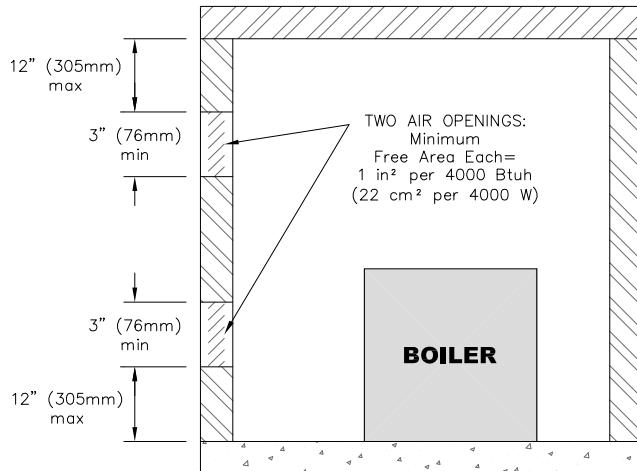
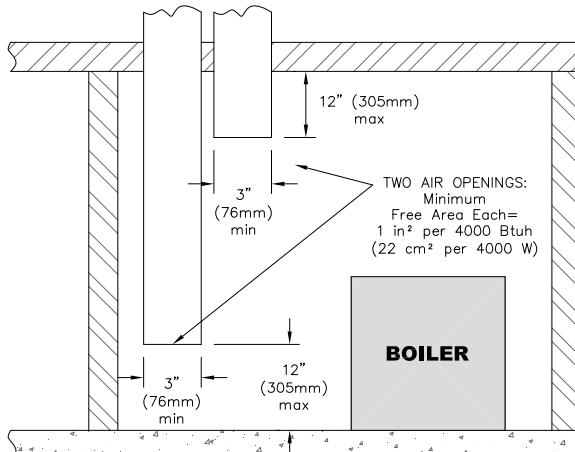

Figure 1.5: Air Openings – All Air Directly from Outdoors
Figure 1.6: Air Openings – All Air from Outdoors through Vertical Ducts
- Where communicating directly or through vertical ducts with the outdoors each opening shall have a minimum free area of 1 in² per 4000 Btu/hr (22 cm² per 4000 W) of total input rating for all equipment in the space. See Figure 1.5 for openings directly communicating with the outdoors or Figure 1.6 for openings connected by ducts to the outdoors.